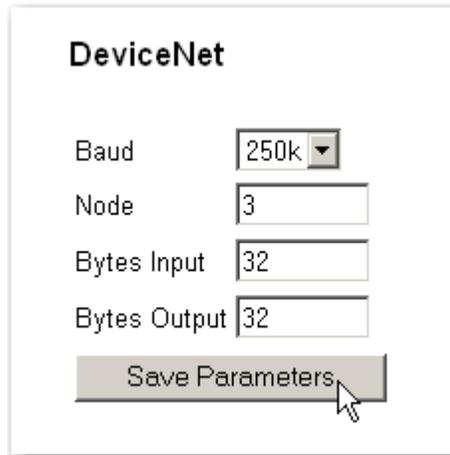

FIG. 218 DEVICENET PAGE/ENTERING DATA
- Step 4. Click in the Node text field. Type in the Node address of the instrument. In our example we entered Node Address 3. (See Fig. 218)